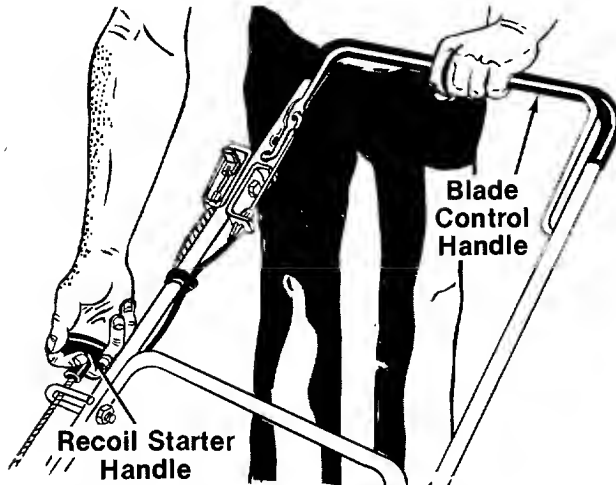

FIGURE 14.
2. Standing behind the unit, depress the blade control handle and hold it against the upper handle as shown in figure 14.